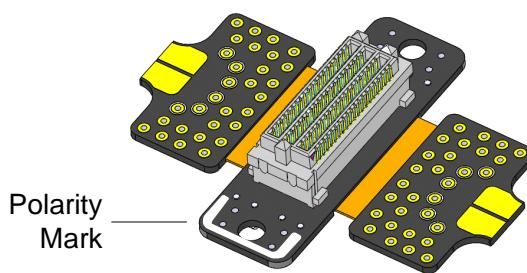
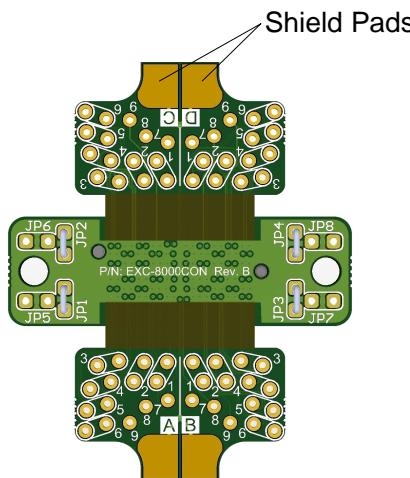

Figure 3-10 EXC-8000CON Assembly – Front View
Figure 3-12 EXC-8000CON Assembly – Rear View with Soldering Holes
1. Figures 3-10 and 3-11 show both sides of the EXC-8000CON assembly. Figure 3-12 shows the rear side with the soldering hole numbers. Solder the adapter cable wires inside of the holes in Figure 3-12 according to the pinouts in Tables 3-5, 3-6 and 3-7.
Note: The soldering holes with circles around them are the **high** pins. For example, the soldering hole A3H (listed in Table 3-5) refers to the top-left soldering hole in section A. See Figure 3-12.